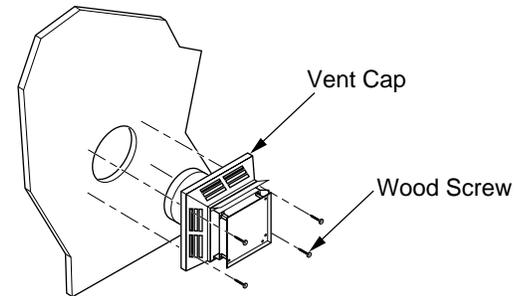

Figure 22 - Installing Horizontal Vent Cap (Noncombustible Exterior)
- Noncombustible Exterior Wall:** Apply a bead of non-hardening mastic around the outside edge of the vent cap. Position the vent cap in the center of the 7 1/2" hole on the exterior wall with the arrow on the vent cap pointing up. Attach the vent cap with four wood screws provided (see Figure 22). **Note:** Replace the wood screws with appropriate fasteners for stucco, brick, concrete, or other types of siding.